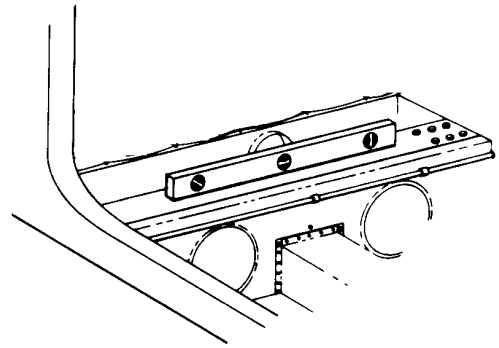

Figure 2-7. Leveling Laterally
b. To laterally level the airplane, place a level across the spar box assembly behind the pilots seat. (Refer to Figure 2-7.) Raise or lower one wing tip by deflating the appropriate tire on the high side of the airplane or adjust either jack until the bubble of the level is centered.